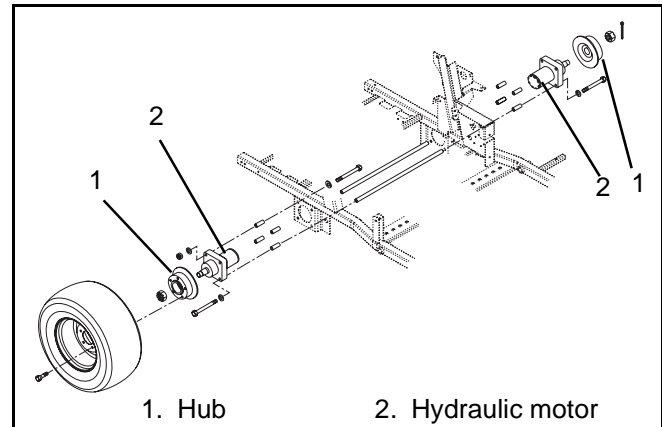

Figure 19
1. Loosen the wheel lugs 1/4 turn. (Figure 19)